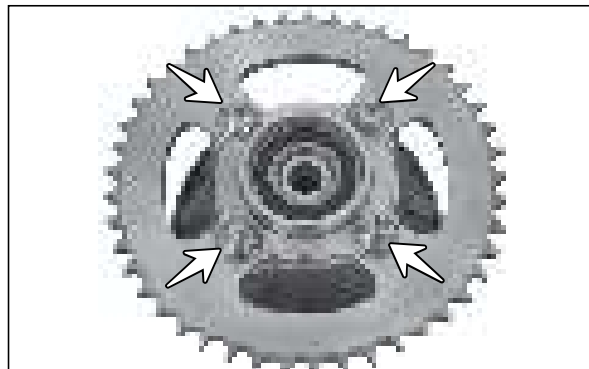

Fig. 6.95
- Remove the flanged 'U' nut (M10 - 4 Nos.). (Fig. 6.95)